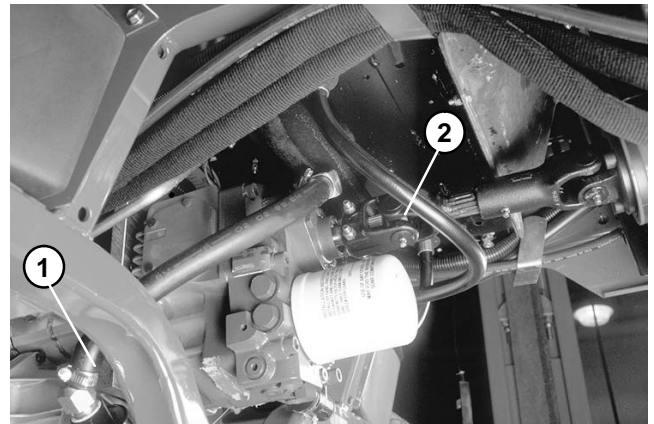

Figure 35
2. Remove two (2) rear cutting units (see Chapter 8 - Cutting Units).
4. Put a drain pan below the transmission. Remove suction line from bottom of in-line filter to let oil drain out of differential (Fig. 35).
7. Disconnect drive shaft from transmission (Fig. 35).
6. Connect drive shaft to the transmission (Fig. 35).
9. Secure suction line to top of in-line filter (Fig. 35).
10. Install two (2) rear cutting units (see Chapter 8 - Cutting Units).